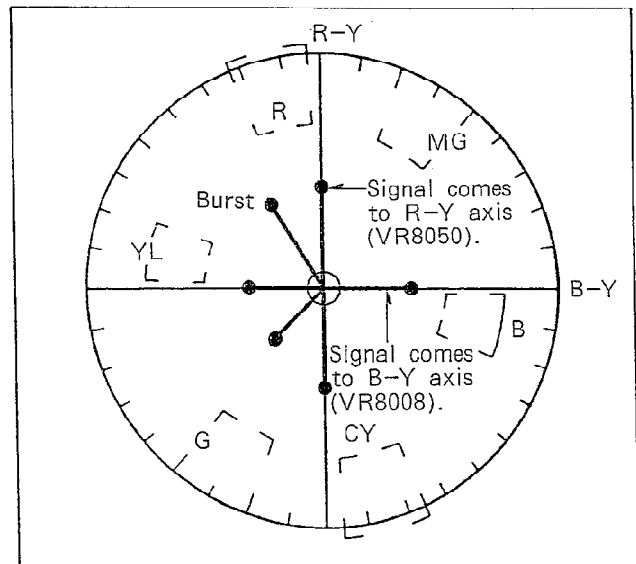

Fig. V8
VECTOR-SCOPE	SHOWN IN FIG. V8
4. Adjust the VR8050 so that signal comes to R-Y axis as shown Fig.V8.
6. Adjust the VR8008 so that signal comes to B-Y axis as shown Fig.V8.